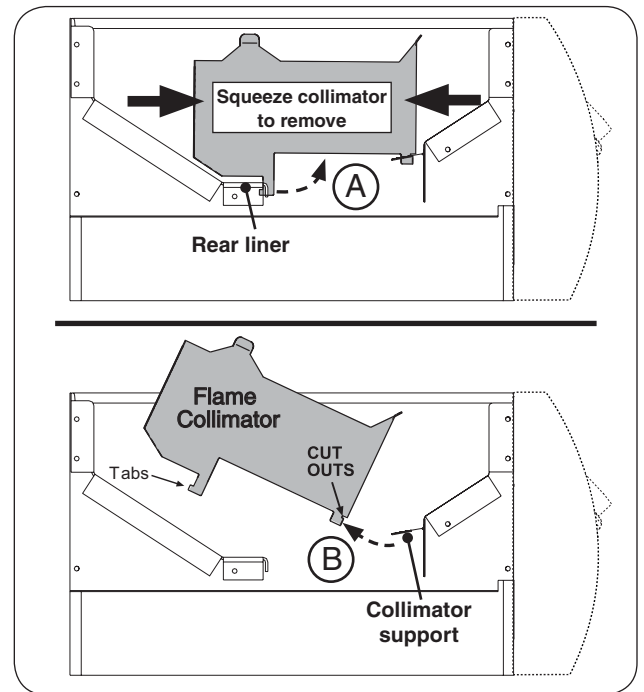

Fig. 32-2 Flame collimator removal
2. Squeeze the collimator to detach the rear tab from the rear liner as shown in Fig. 32-2, A, and lift up the rear portion of the collimator.
3. Detach the collimator from the front collimator support and completely remove the collimator as shown in Fig. 32-2, B.